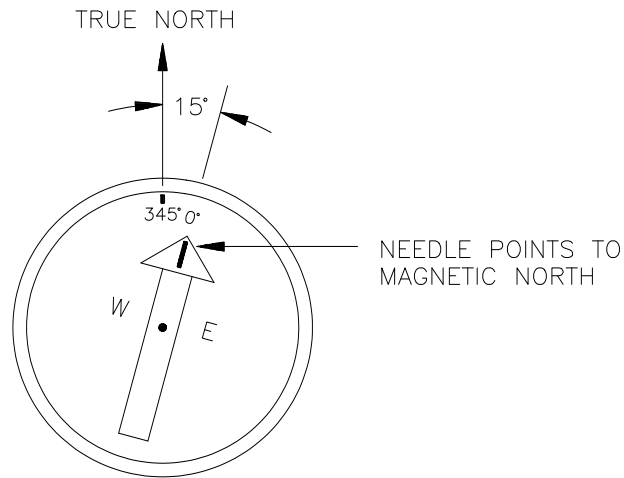
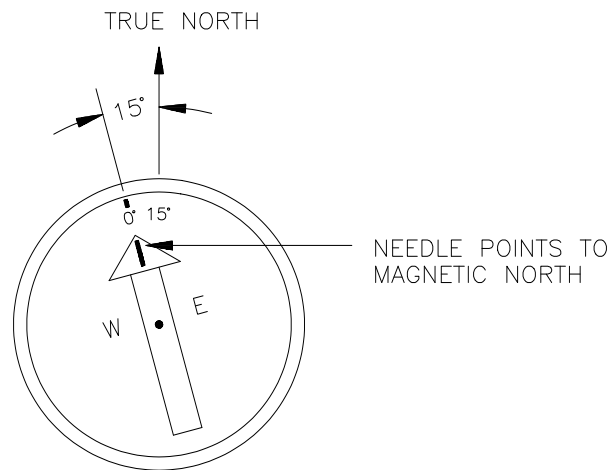

FIGURE A-2. A Declination Angle East of True North (Positive) is Subtracted from 360 (0) degrees to Find True North
FIGURE A-3. A Declination Angle West of True North (Negative) is Subtracted from 0 (360) degrees to Find True North
Declination angles are always subtracted from the compass reading to find True North. A declination angle East of True North is reported as a positive value and is subtracted from 360 (0) degrees to find True North as shown Figure A-2. A declination angle West of True North is reported as a negative value and is also subtracted from 0 (360) degrees to find True North as shown in Figure A-3. Note that when a negative number is subtracted from a positive number, the resulting arithmetic operation is addition.